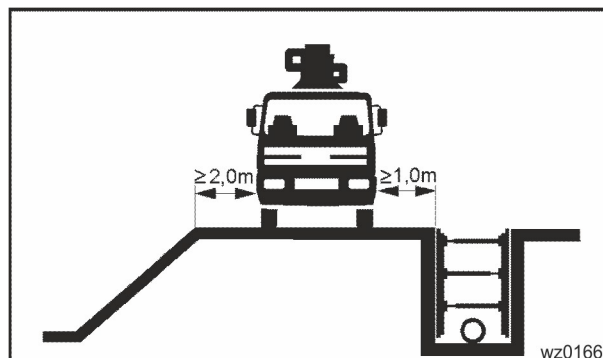

Fig. 130 Distances from excavation pits
- Maintain the prescribed safety distance from excavation pits (Fig. 130 Distances from excavation pits).